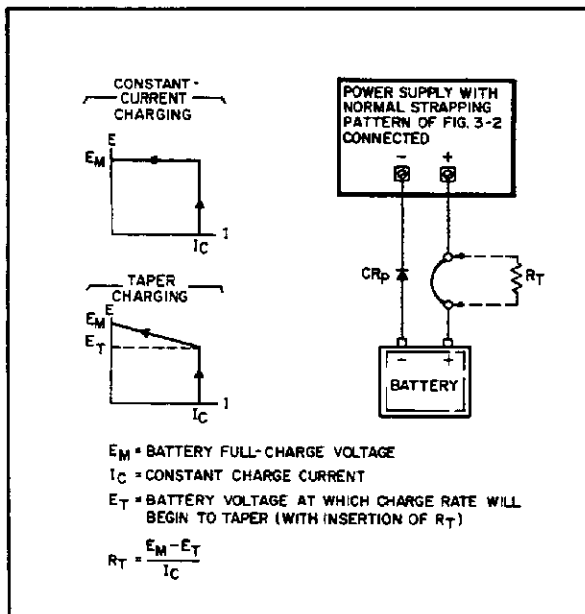

Figure 3-14. Battery Charging
Any time these supplies are used to charge a battery, be sure to install a protective diode CR_P in series with the battery as shown in Figure 3-14 to prevent the battery from discharging into the supply if the supply is turned off. Extensive damage to the supply could result if this diode were omitted.
- e. Adjust the VOLTAGE control for an output voltage 0.7 volts greater than the desired full charge voltage. (The added 0.7 volts compensates for the drop across CR_p.) The supply may then be connected to the battery terminals, positive to positive and negative to negative as shown in Figure 3-14 (omit R_T).
3-82 Taper Charge. When charging lead-acid cells, many manufacturers recommend that the charging current be reduced as the charge nears completion. This can be accomplished by inserting a small resistance (R_T) in series with one of the load leads from the supply to the battery. (See Figure 3-14.) This resistor alters the normally rectangular charging plot in such a manner as to provide a taper charge for the last portion of the charge. The proper value for this resistor is the difference between the full charge voltage and the voltage at which the tapering is to start, divided by the initial charging current. Set the initial charging rate and full charge voltage as instructed in paragraph 3-81.